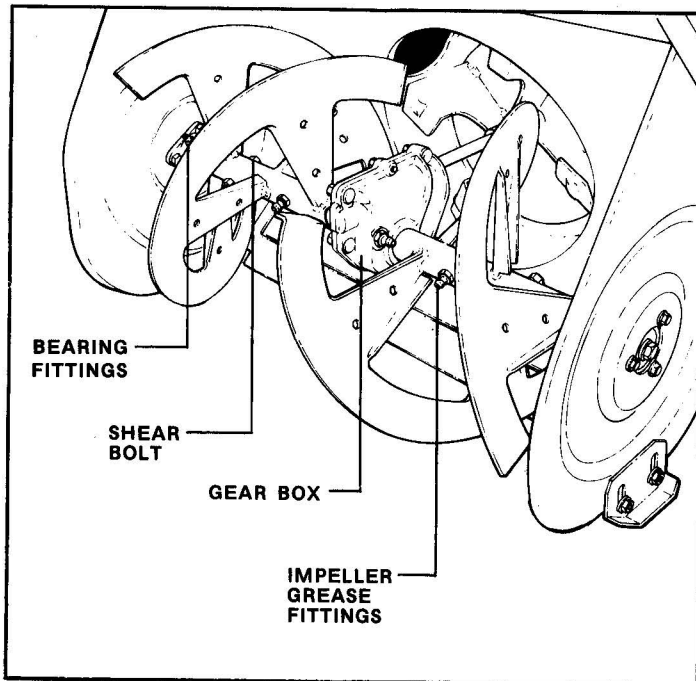

FIGURE 3.1
Refer to the Engine Manual for lubrication requirements on the engine powering your SNOW THROWER. Your SNOW THROWER unit has five (5) grease fittings, two (2) on the augers, one (1) in the gearbox housing and two (2) on the auger shaft bearings as shown in Figure 3.1. Service these and the other general lube points as follows: